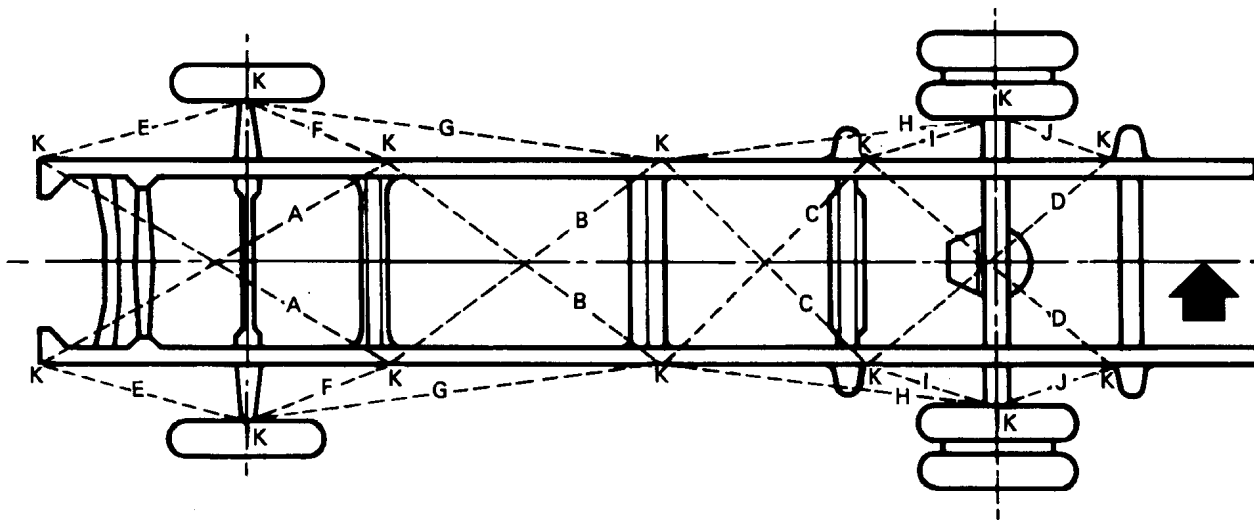

Figure 2 Centerline of Chassis
- B. Tack or tape pieces of paper to the floor directly under each point of measurement on the chassis as indicated by the letter "K" in Figure 2.